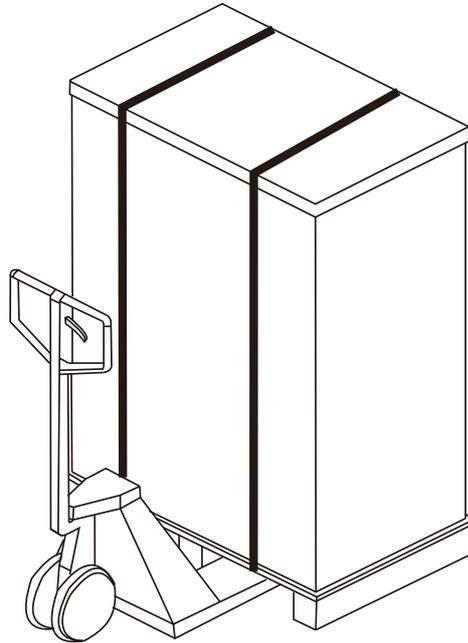

Figure 2-1
1. Use a forklift or pallet jack to move the product to installed area. Refer to Figure 2-1. Please make sure the bearing capacity of forklift is sufficient.